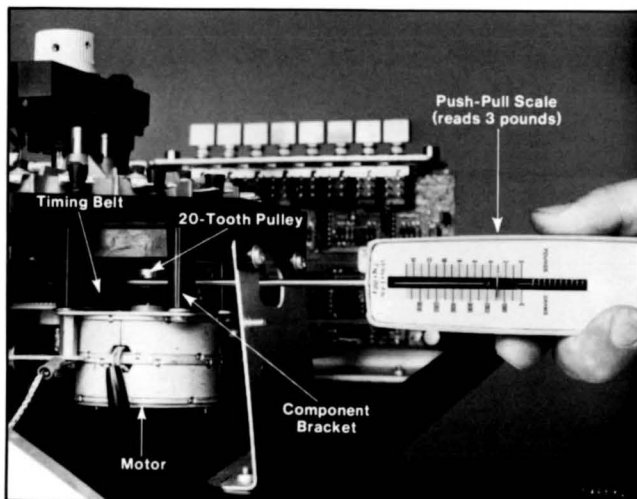

Figure 2-16. Setting Motor Belt Tension.
2. **Hook** a push-pull scale (like a fish weighing scale) over the motor shaft as shown in Figure 2-16 and pull a steady force of three pounds (1.4 kg).